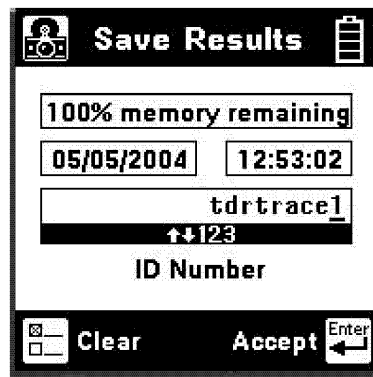

Figure 24. AST900 Save Results Display
(1) A branch circuit is a wire that has one or more wires branching off of the main wire. The beginning of the branch circuit will look like a resistance fault and an open (a dip followed by a peak). Use the meter's Resistance function (step: 22) to measure the resistance on the conductors. If there is no resistance, and the display shows a dip followed by a peak, suspect a branch circuit.
p. TDR Trace Save for Wiring Trace Comparison. (Figure 24).
(1) Select the TDR control parameters so the screen displays the trace as desired.
(2) Press the  key.
(3) The display shows the Save Results screen (see Figure 24).
(4) Use the blue keys to enter an alphanumeric ID.